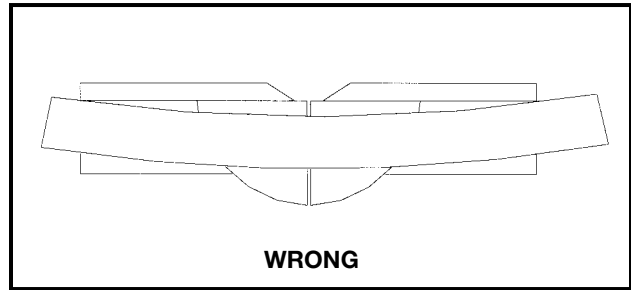

Fig. 40
2. If the material is positioned the wrong way, as shown in Fig. 40, the workpiece will pinch the blade near the completion of the cut.